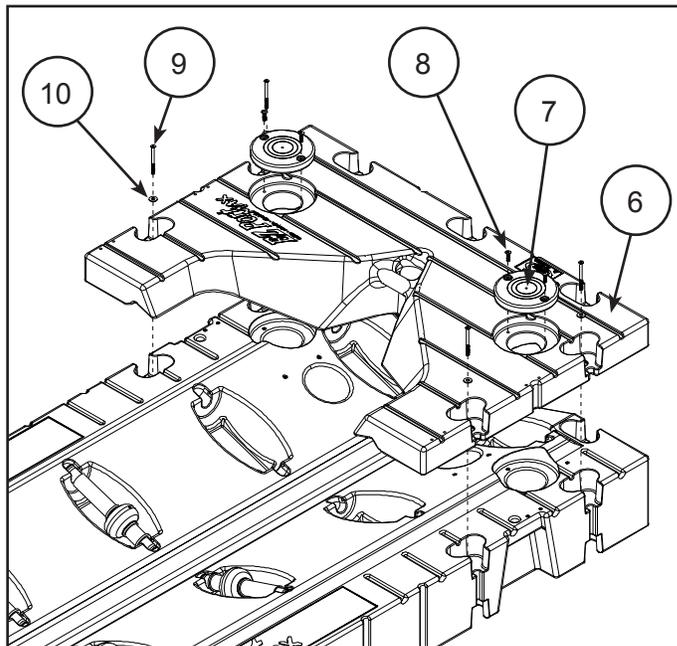

Figure 2.
- The full bow section (206025BS-\*\*) must be used to attach the EZ Port MAX to new or existing EZ Dock floating docks and provides additional walking surface, (Figure 2). To install, place the full bow section onto the front of the entry section and align the front with the front of the entry. Install four (4) bolts and washers (Items 9 & 10) into the holes as indicated below and tighten.
**Step 3:** Assemble a Full Bow Section at the front of the EZ Port MAX Extension. (See page 8, Figure 2 for Full Bow Section assembly instructions).